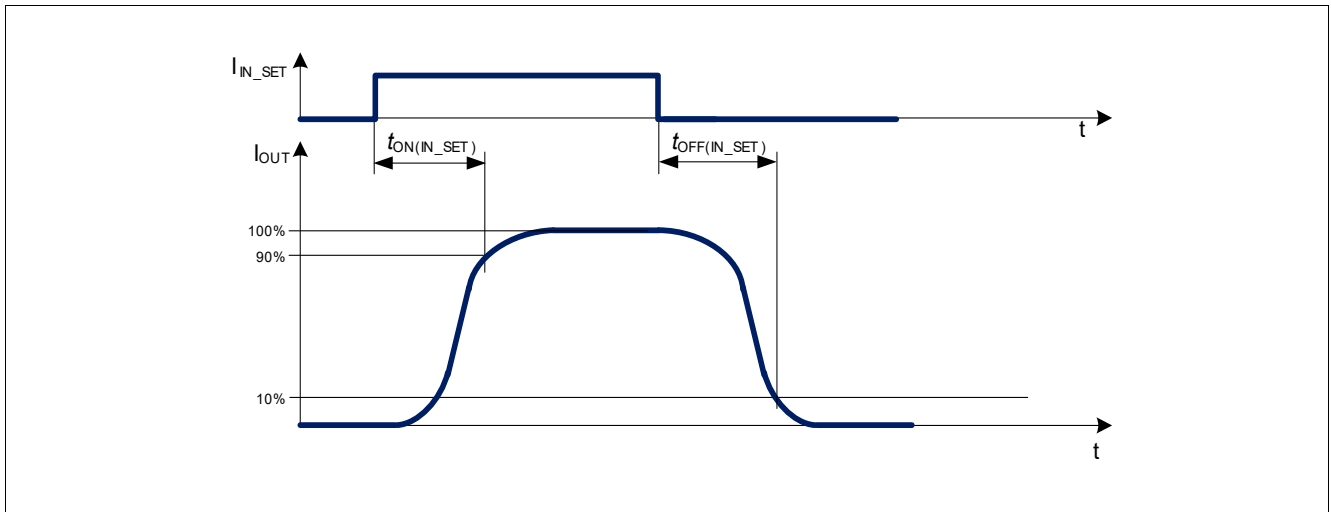
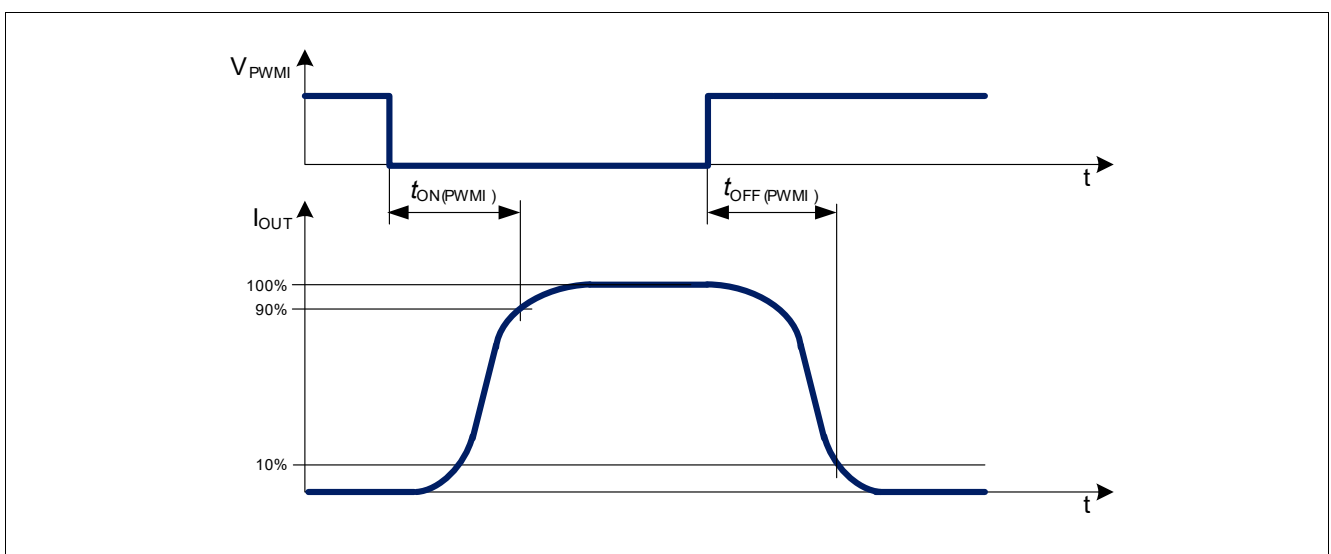

Figure 14 IN\_SET turn on and turn off delay timing diagram
Figure 16 PWMI turn on and turn off timing diagram
In the following diagram (Figure 14, Figure 16) the influences of inputs on output activation delays are shown.
2) Refer to Figure 14
4) Refer to Figure 16